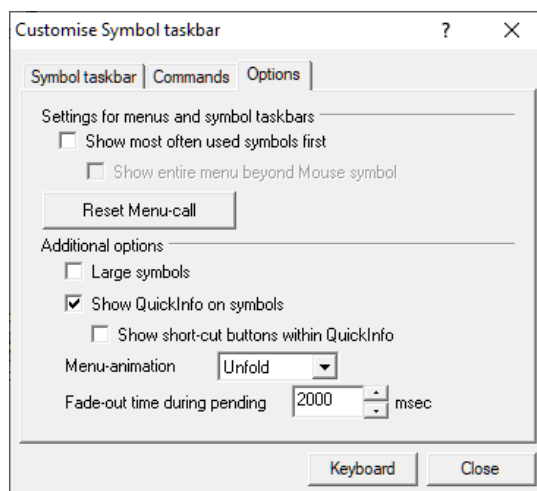

Fig. 16.41 9 options for displaying the toolbars
- ☛ Click on the "Options" tab and make the desired settings there. The default values are shown below (cf. Fig. 16.41).